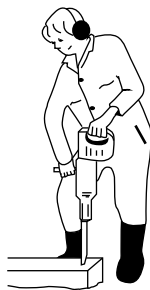

Fig. 1
- 1- Establish the location of all your anchoring bases. Then you can proceed with drilling all the holes. Holes must be 52 mm (2 inches) in diameter and 130 mm (5 inches) deep. (FIG 1)